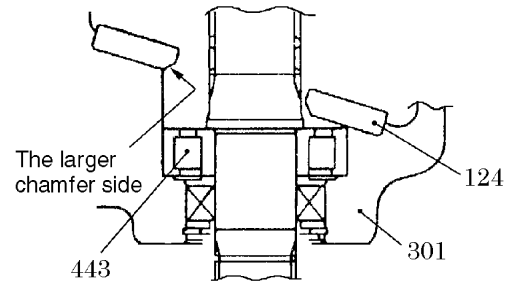

Fig. 5-11 Inserting shoe plate (124)
- 6) Place casing (301) as shown in Fig. 5-11 and insert shoe plate (124).